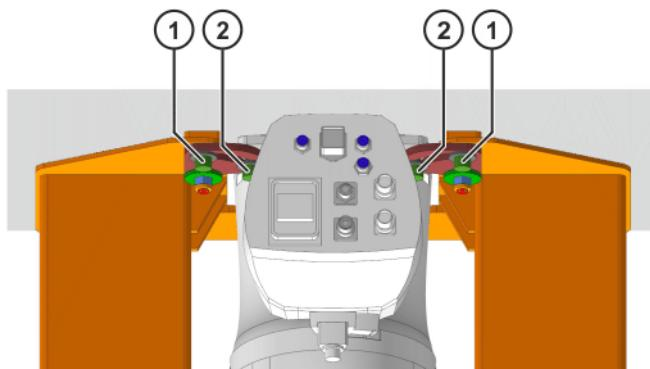

Fig. 8-12: Removing screws from the rear
14. Unscrew 2 M12x30 Allen screws (rear Allen screws) and washers from the rear of the base frame (**>>>** Fig. 8-12).